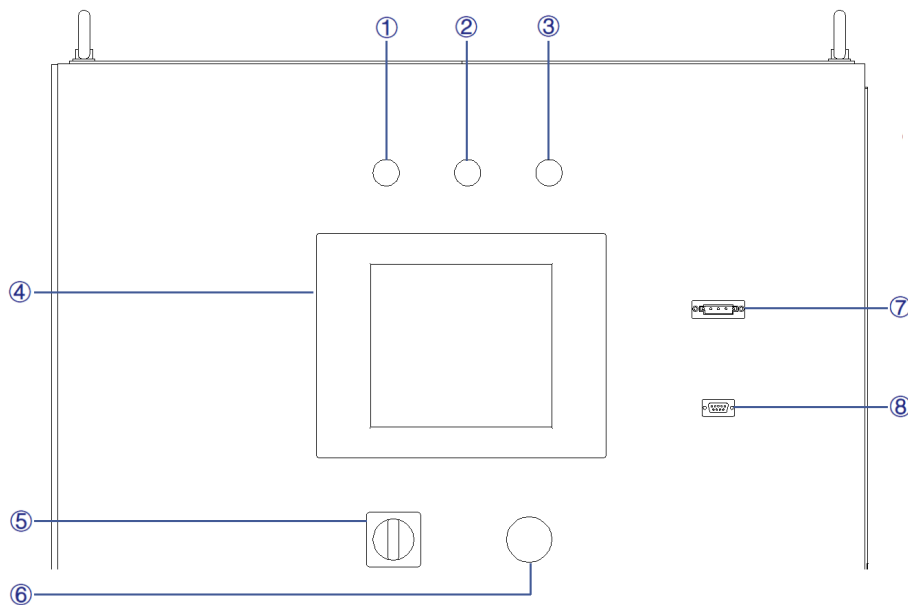
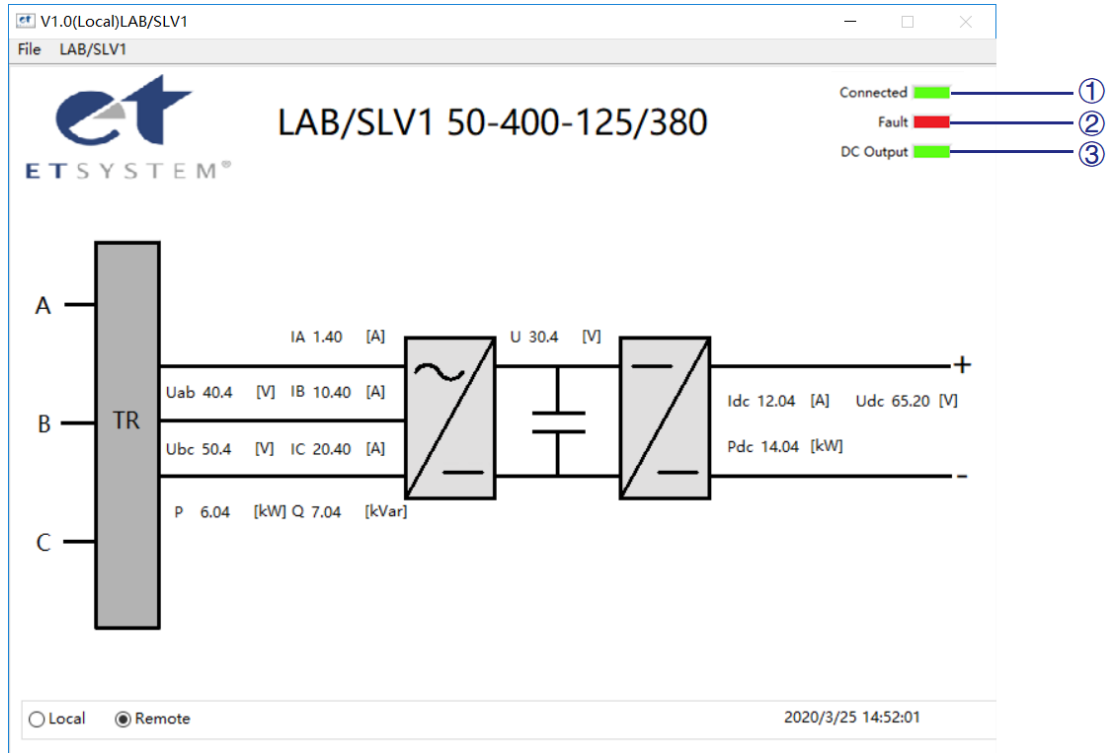

Figure 3-3 Front Panel
Figure 5-1 Main panel
Turn clockwise to close the control switch on the front panel (figure 3-3⑤), the power supply is standby. If the power supply communication connection is normal, the white light is always on (figure 3-3①).
LAB/SLV1 series provides GUI software, which is installed on the front touch screen using the windows OS. (the software can also be installed on the control PC connected to the power supply). A few seconds after the power supply is initialized, the control unit and touch screen begin to work, the power supply is standby. If the power supply communication is normal, the white light (Figure 3-3①) and the “connected” green light (Figure 5-1①) is always on. All functions and parameters can be accessed through the TFT-Touch panel or GUI software to set up and run.